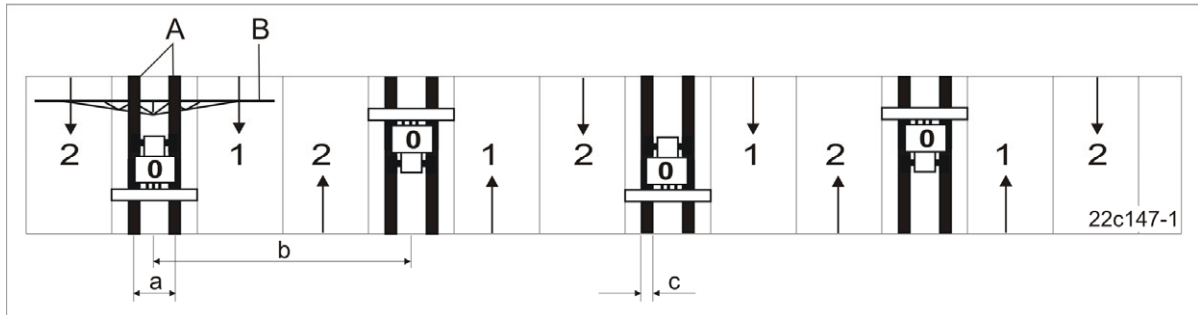

Fig. 96
Tramlines are seed-free tracks (Fig. 96/A) for fertilising and plant care machines used later.
The tramline spacing (Fig. 96/b) corresponds to the working width of the care machines (Fig. 96/B), e.g. fertiliser spread and/or sprayer, which are used on sown fields.
To set the different tramline spacings (Fig. 96/b), appropriate tramline rhythms must be entered on the **AMATRON⁺**.
The figure (Fig. 96) shows the tramline rhythm 3. During the work the field runs are numbered consecutively (tramline counter) and displayed in the **AMATRON⁺**.
The wheelmark spacing (Fig. 96/a) of the tramline corresponds to that of the cultivating tractor and is adjustable [see chapter "Adjusting the track width of the cultivating tractor", on page 205].
The track width (Fig. 96/c) of the tramline increases with an increasing number of tramline coulters fitted next to each other.
- the wheelmark spacing of the tramline (Fig. 96/a)